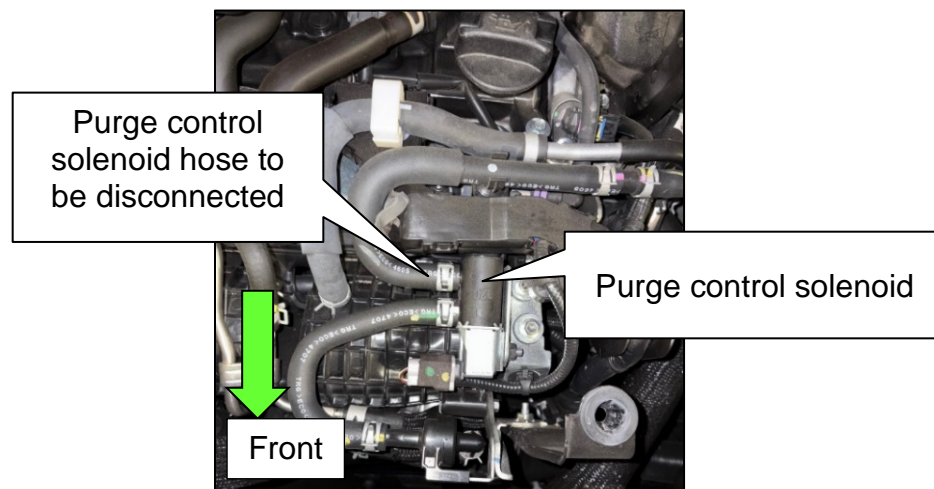

Figure 6
- a. Remove the engine cover and locate the purge control solenoid in the engine compartment (Figure 6).
- b. Disconnect the hose from the purge control solenoid (Figure 6) that goes to the fuel tank to allow access for the smoke machine.